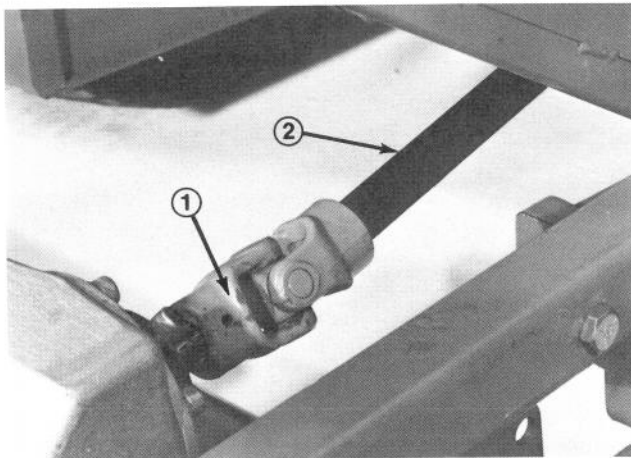

Figure 5
2. Stop engine, slide cutting unit under frame, slide male PTO shaft into female PTO shaft. Align gearcase input shaft with PTO shaft and slide together. Secure with roll pin (Fig. 5).